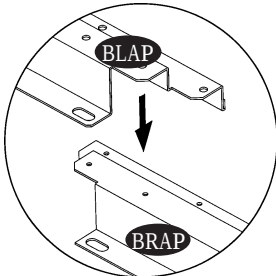

Fig.1
3. Assemble base bar back left (BLAP) and base bar back right (BRAP) with four (S7) screws. See fig. 1 & 2.